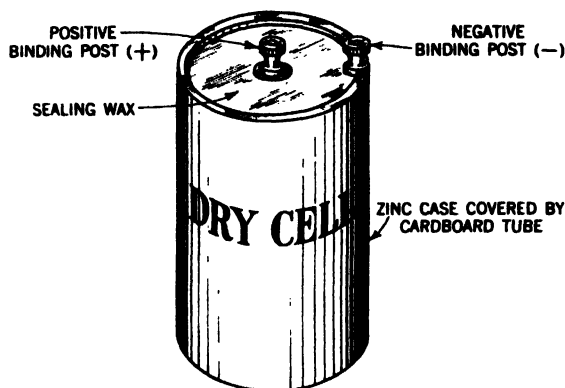

Fig. 11-1. The dry cell.
**A Dry Cell Is an Electron "Pump".** Look at a dry cell (Fig. 11-1). You will notice that it is a zinc can closed at one end. The other end is sealed with some insulator such as sealing wax or pitch. In the center of the sealing wax you will notice a binding post on a carbon rod. This post may be marked *POSITIVE* or  $+$ . At the same end of the cell, but fastened to the zinc, is a second binding post which may be marked *NEGATIVE* or  $-$ . The can is filled with certain chemicals.